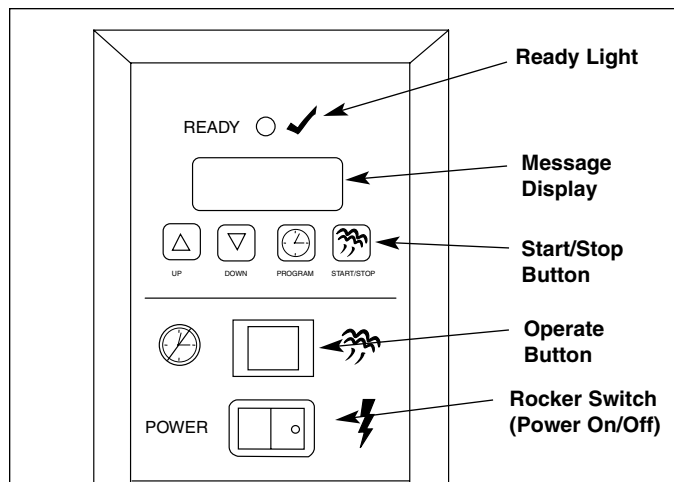

Figure 5. Operating Controls
When the operate button (Figure 5) is pressed, power is supplied to the water pump (MS-150/155/355) or solenoid (MS-250/255). The pump/solenoid operates and water sprays onto the heated steam generator. The water flashes immediately into live steam and shoots down onto the product.
1. Turn the rocker switch (power on/off) to ON (Figure 5).